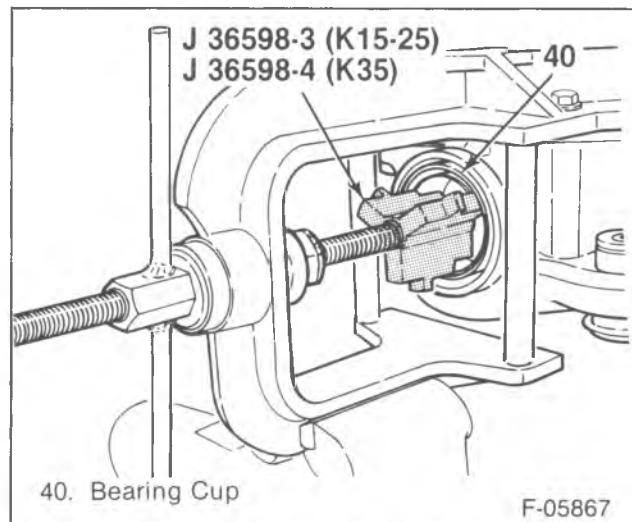
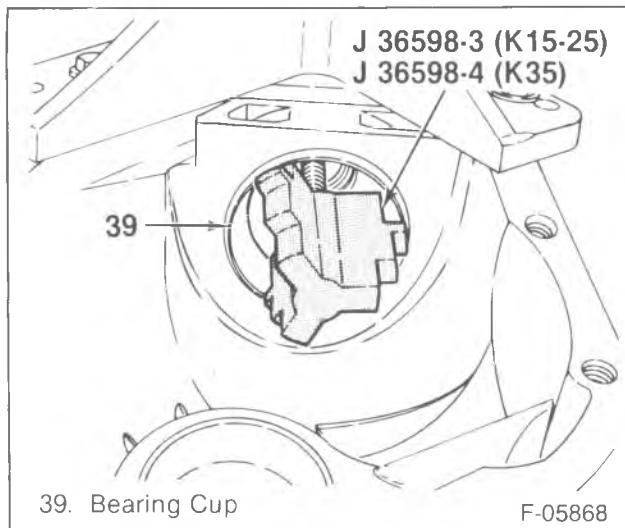

Figure 20—Installing the Outer Pinion Bearing Cup
Figure 21—Installing the Inner Pinion Bearing Cup
- 1. Outer bearing cup (40). Use the forcing screw and J 36598-3 (K15-25) or J 36598-4 (K35) (figure 20).
- 2. Inner bearing cup (39).
- Install J 36598-3 (K15-25 models) or J 36598-4 (K35 models) on the forcing screw (figure 21).
- Pull the bearing cup into place with the forcing screw (figure 21).